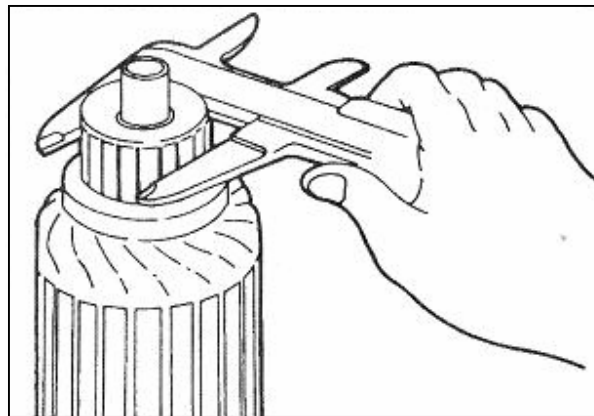

Fig. 9-16
- ② Measure the commutator outer diameter. See Fig.9-16.